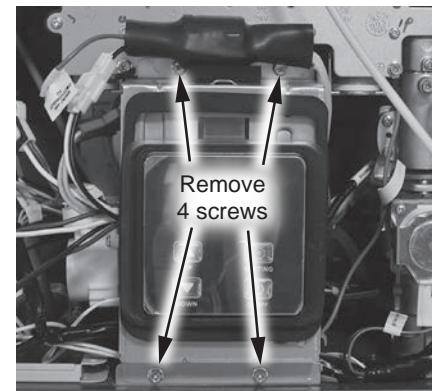

Figure 180 - Removing UIM and bracket screws
- 11 Locate the User Interface Module (UIM) and bracket. Remove the four screws securing bracket to the water heater. Place screws aside in a safe place for reinstallation. See Figure 180.